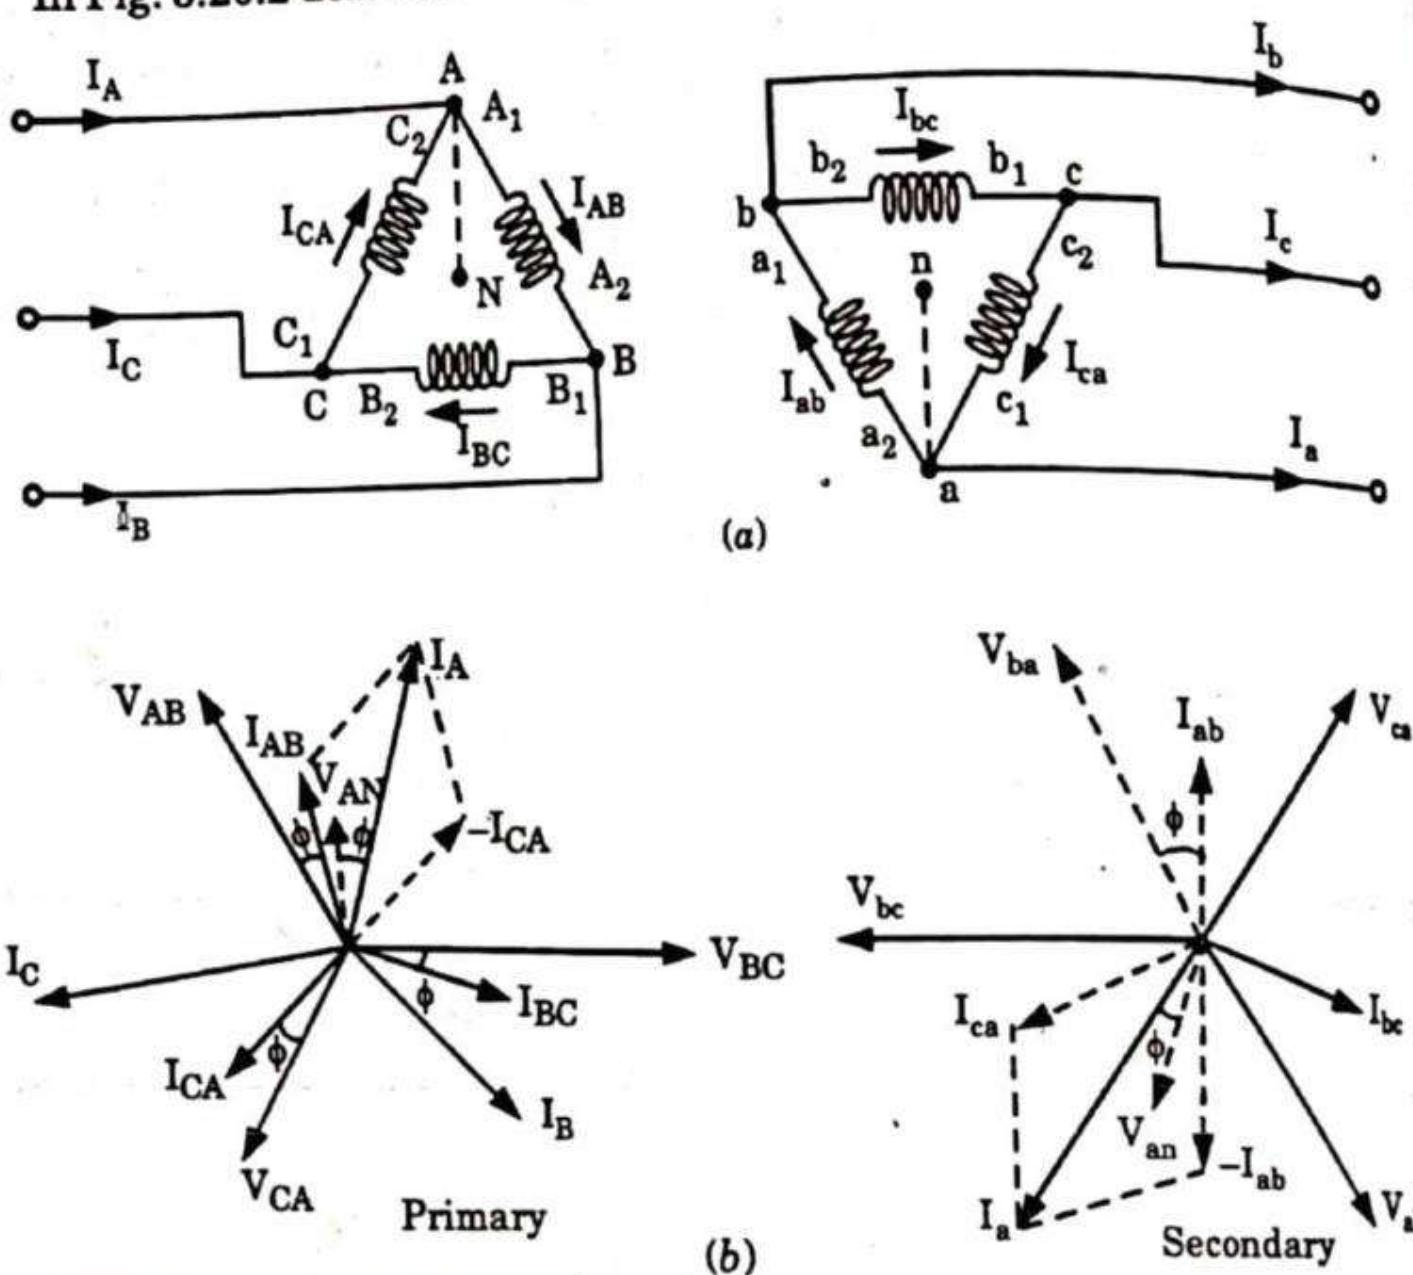

Fig. 3.20.2. Delta-Delta connection of transformer (180° phase shift).
- In Fig. 3.20.2 delta-delta connection with 180° phase shift is shown.